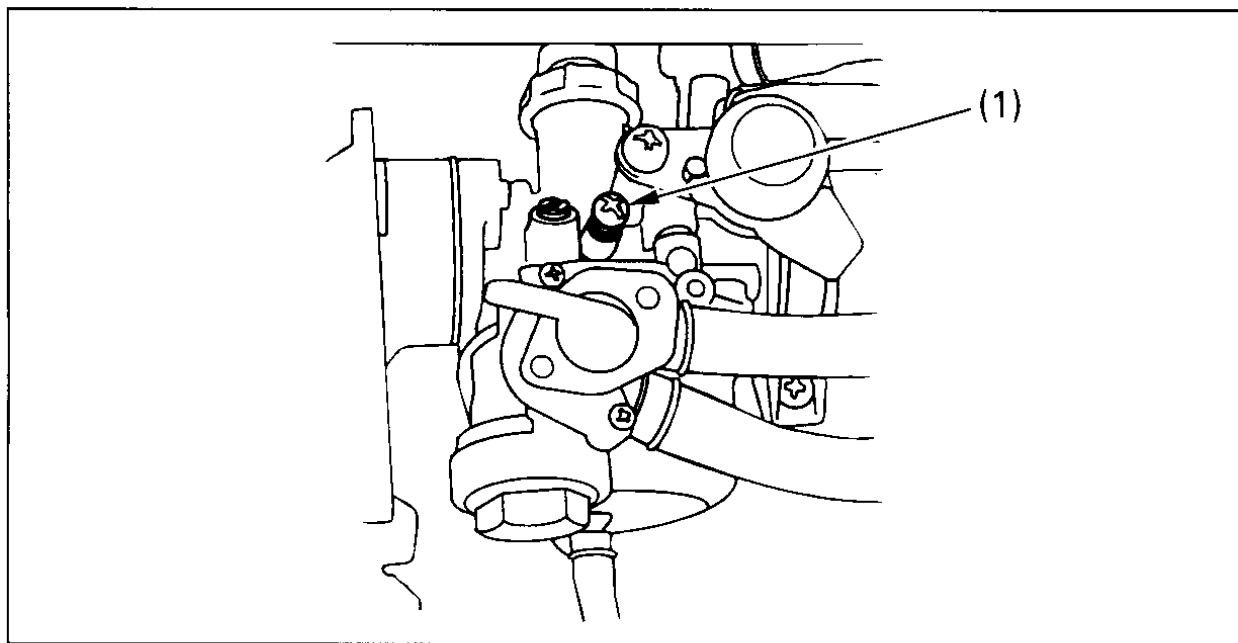

Fig. 4-7 (1) Throttle stop screw
2. Adjust idle speed by attaching a tachometer and using a screwdriver to turn the screwdriver by turning the throttle stop screw (Fig. 4-7).